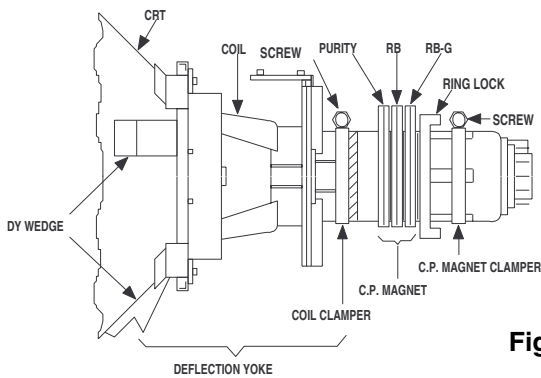

Fig. 6
5. Loosen the screw on the Deflection Yoke Clamper and pull the Deflection Yoke back away from the screen. (See Fig. 6)